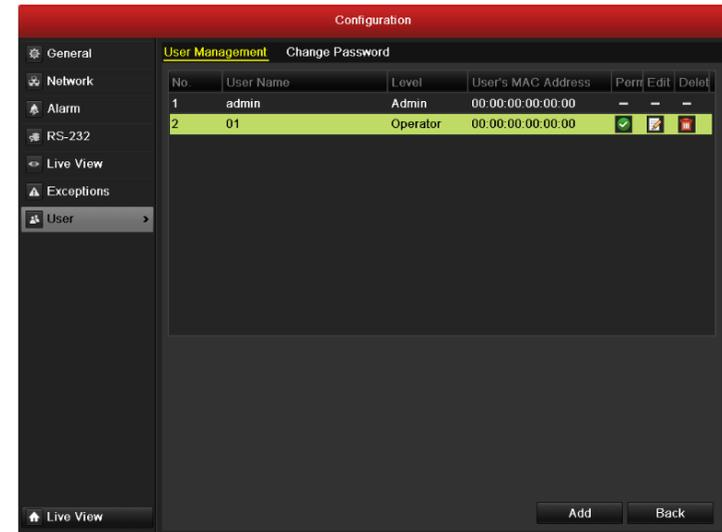

Figure 14.22 Delete a User
2. Select the user to be deleted from the list, as shown in Figure 14.22.